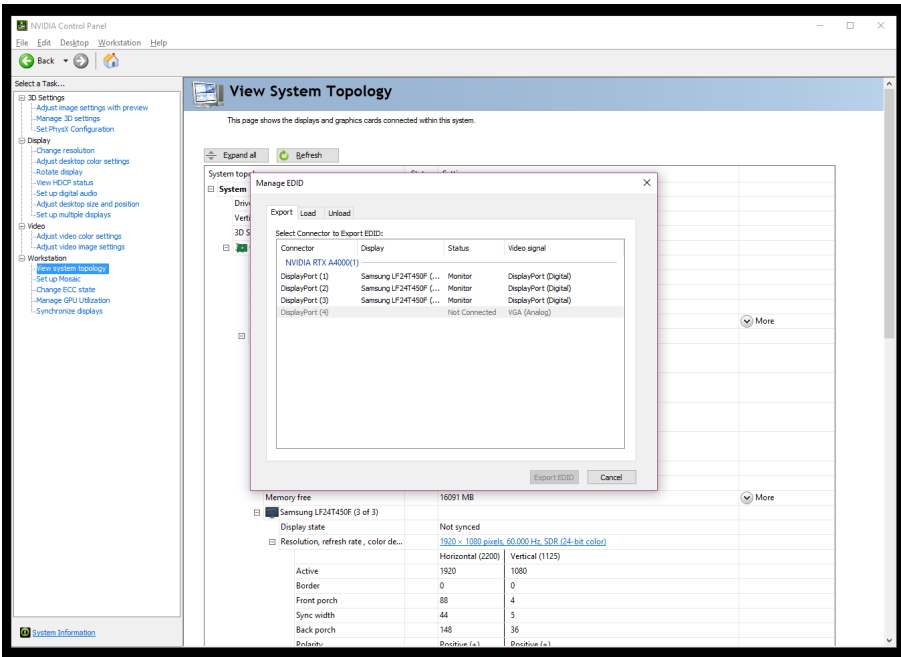

Figure 3
3. All outputs are listed within the A4000 section. Open the “Manage EDID” window by clicking the EDID link (figure 3).